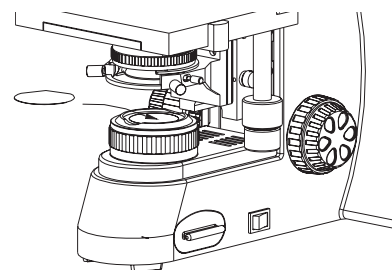

Figure 6.
1. Filters: blue (MS1195), green (MS1197), yellow (MS1196) and neutral (MS1198). Place the filter, rough side down, on the field diaphragm surface (see figure 6).